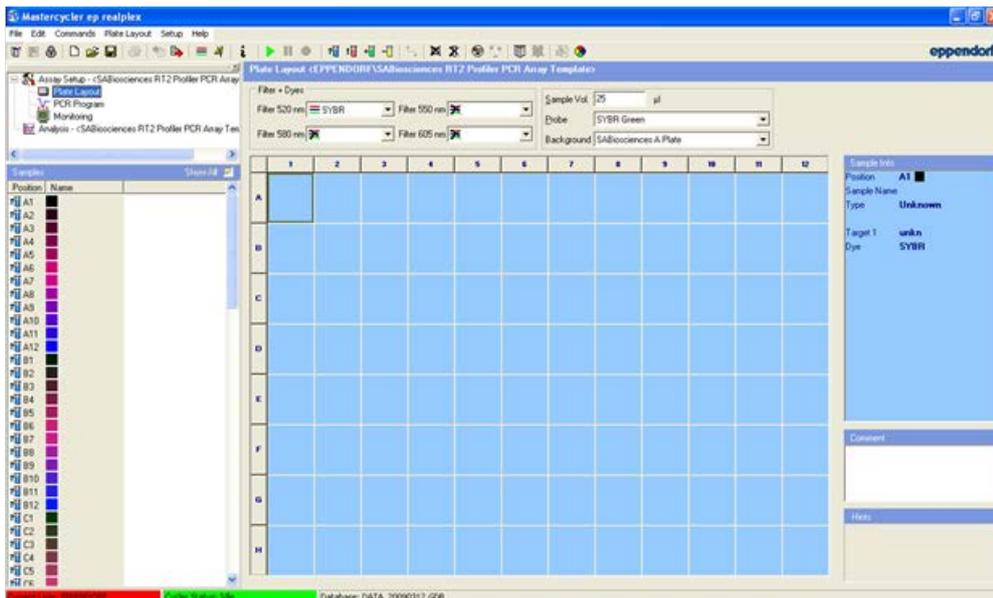

Figure 4. “PCR Program” window.
3. Select “PCR Program” in the navigator window at the upper left corner of the screen. The default PCR program will appear (Figure 4).